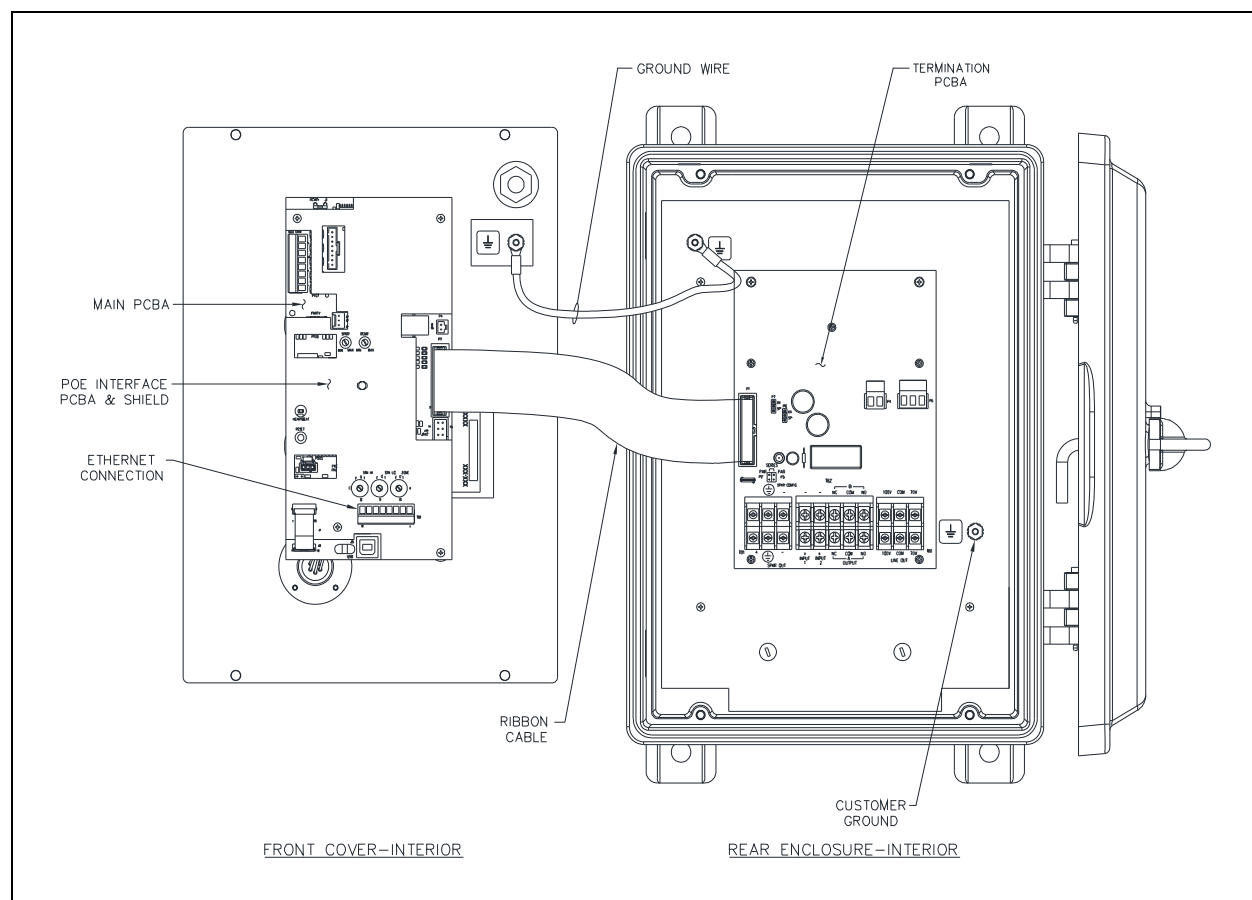

Figure 3. SP2 Weatherproof POE Station—Interior View
1. Remove the four screws from the front panel and turn it to the left so that the interior surface faces out (see Figure 3).
2. Secure it to the ground terminal located in the lower right corner at the back of the rear enclosure (see Figure 3).